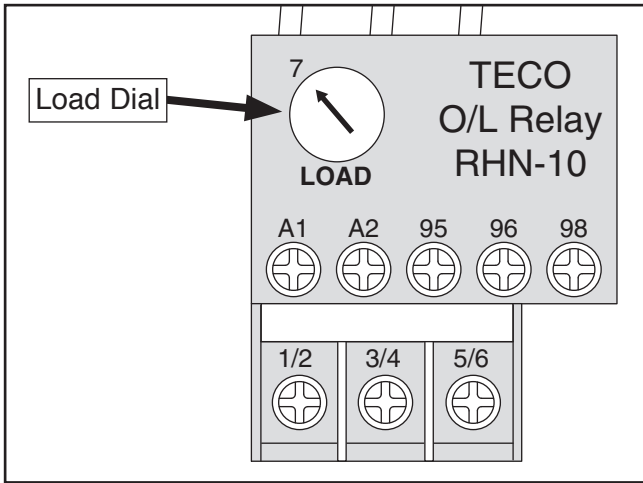

Figure 6. 440V overload relay set at 7 amps.
3. Replace the existing contactor and overload relay with those from the 440V Conversion Kit (Part Number P9953ZXF042) (refer to **Pages 51– 52** for detailed illustrations), then set the overload relay load dial to 7, as shown in **Figure 6** on the next page.